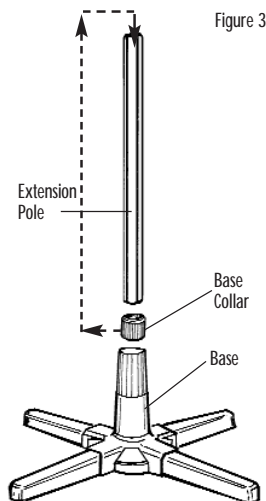

Figure 3
- Step 1: Turn the extension pole base collar (see figure 3 and 5) counter-clockwise to loosen pole.